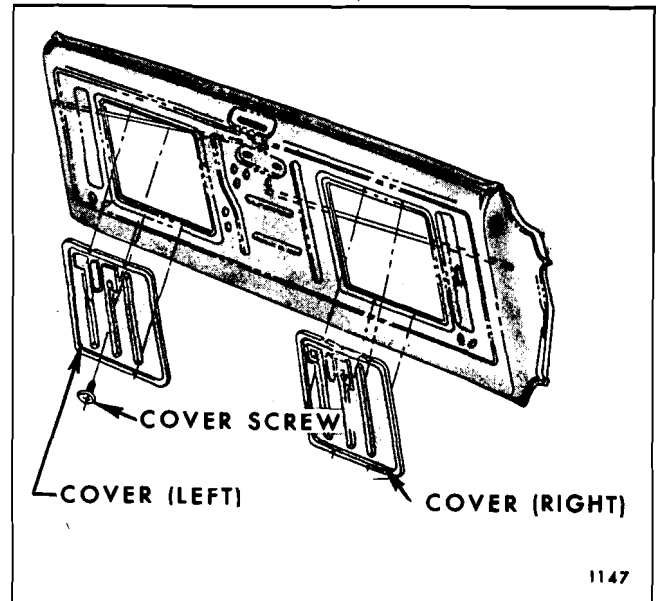

Fig. 9-3—Tail Gate Inner Panel Access Hole Cover
2. Remove upper screws securing right and left access hole covers to tail gate inner panel and remove covers by sliding upward. (See Fig. 9-3).